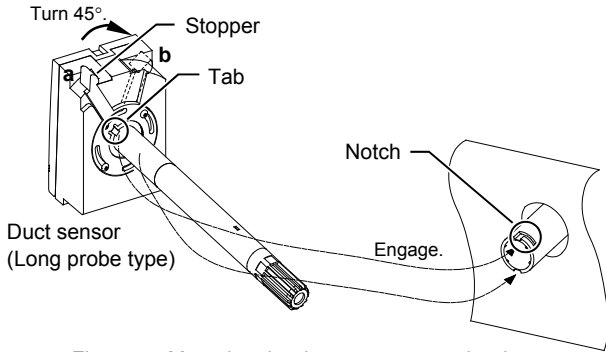

Figure 7. Mounting the duct sensor onto the duct (with the mounting bracket)
- Release the stopper of the duct sensor by turning the stopper 45° (from "a" to "b" shown in Fig. 7). Then, insert the probe into the bracket and engage the tabs of the probe with the notches of the bracket.